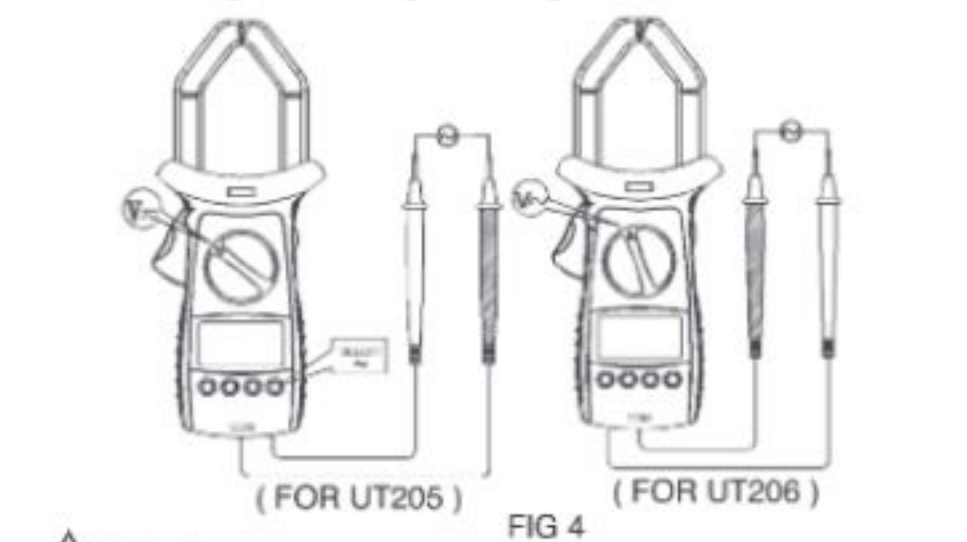

FIG 4
B. Measuring AC Voltage(See Figure 4)